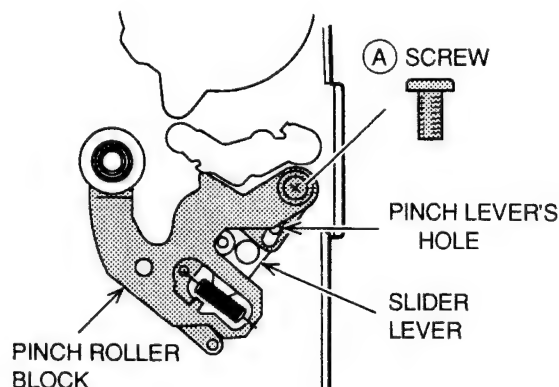

Fig. 3-22
3. When installing, make sure to align the SLIDER LEVER's pin with the hole on the PINCH LEVER as shown in Fig. 3-22.